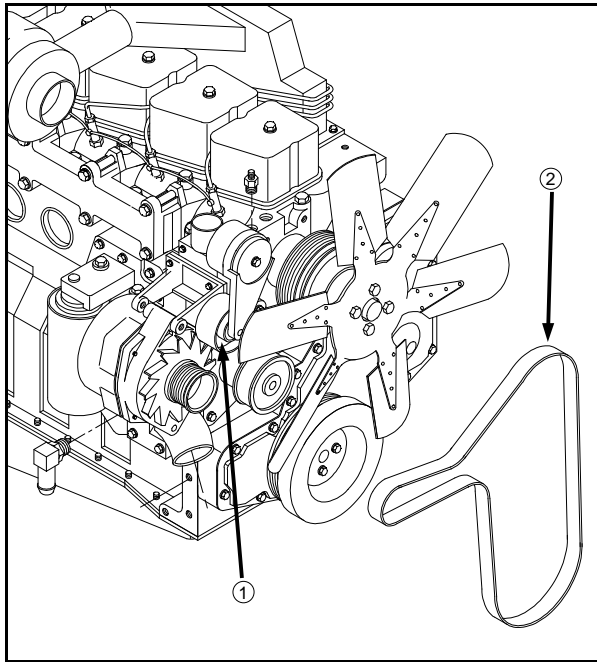

FIG 7.41
**REMOVAL** - Insert a 3/8 inch square ratchet drive into the belt tensioner (fig. 7.41, item 1) and lift upward to remove the belt (fig. 7.41, item 2).